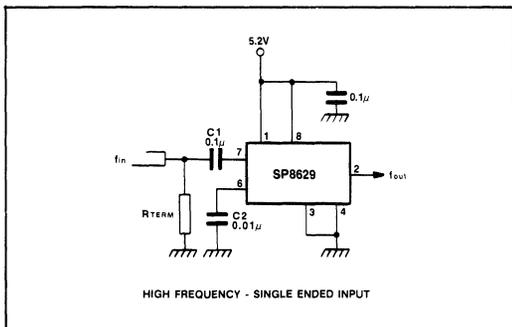

Fig.6 High frequency, single-ended input
2. The signal source is usually capacitively coupled to the input as shown in Fig. 6. In the single-ended mode a capacitor of  $0.01\mu F$  (C2) should be connected between the unused input and the ground plane to provide a good high frequency bypass. The capacitor should be increased at lower frequencies. If the input is likely to be interrupted, it may be desirable to connect a 100k resistor between an input and ground.